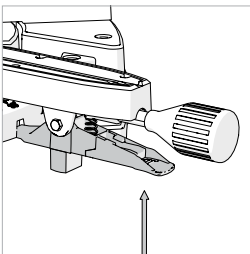

Fig. 31
- Pull up the Positive Stop Locking Lever. **(Fig. 31)**